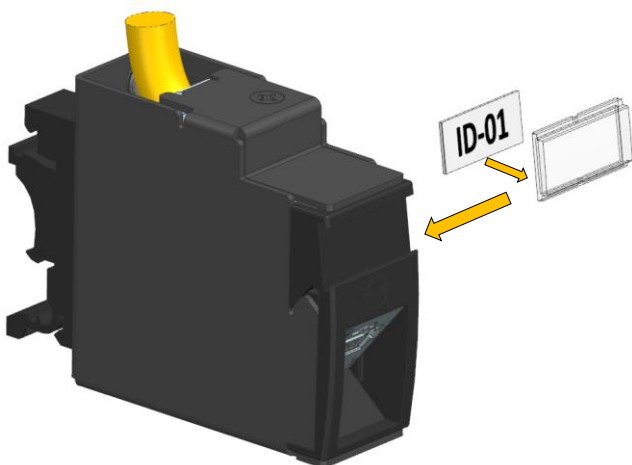

Fig.3J
3.2 Insert the Port ID label & label holder (Fig.3J and 3K)